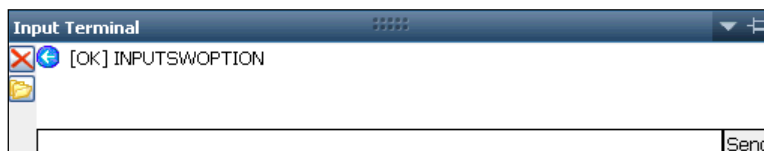

Figure 86: Input Terminal – Successful Software Upload
The *Input Terminal* window also displays the outcome of the upload. Figure 86 shows a successful upload:
5. Click *Send* on the *Input Terminal* window. If the software options loaded successfully, the *Input Terminal* window displays a confirmation message (see Figure 86).